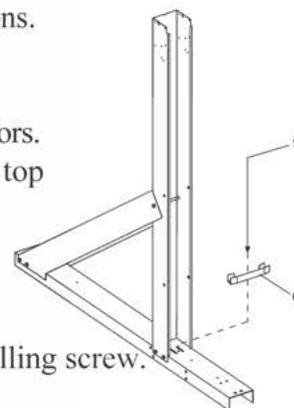

Fig. 10
D) Now you can install the straight side bottom rail connectors. Use one per strap end channel. Place the connector on top of the strap end channel so that the open part of the connector sits inside the straight side upright. The hole in the straight side connector will line up with the hole between the two slots on the strap end channel. Secure the piece using a #12 x 3/4" self drilling screw. See Fig.10 for visual instructions.